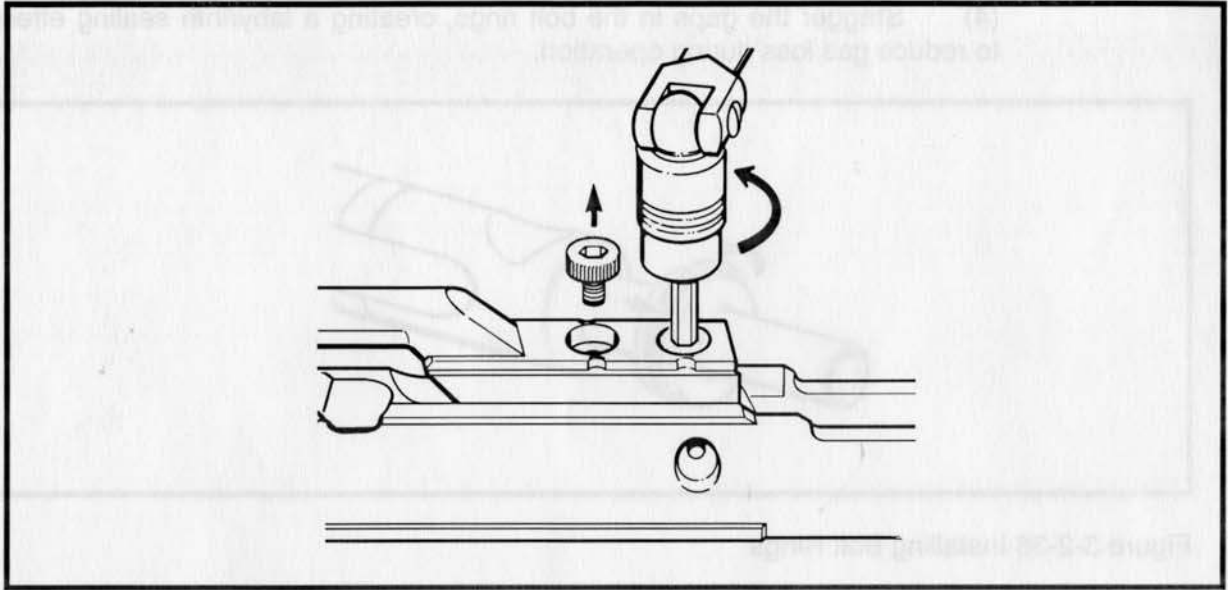

Figure 3-2-35 Removing the Bolt Carrier Key
33. **Disassembling the Bolt Carrier.** The bolt carrier is not normally disassembled, except for the replacement of defective or damaged components, since the carrier key is sealed to the carrier and the securing screws are heavily staked in position. However, should disassembly be required, unscrew the two socket head screws with a hexagonal bit socket on a socket wrench and separate the carrier key from the carrier. See Figure 3-2-35.